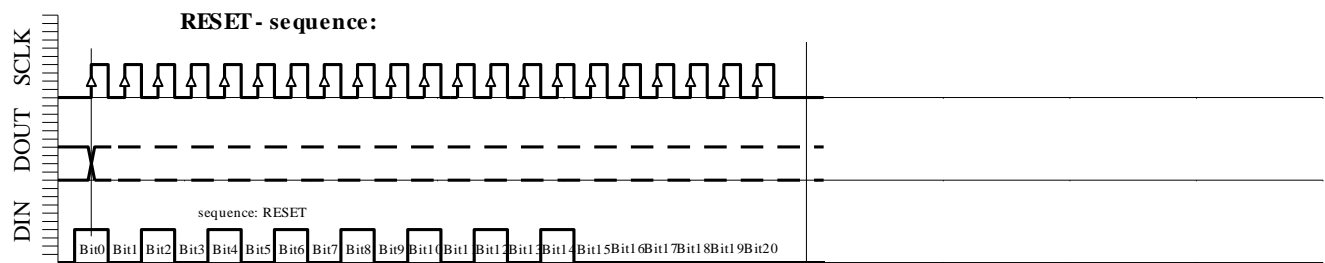

Fig. 6e: RESET sequence (21 bit)
- ✦ RESET sequence (Figure 6e)
The RESET sequence is special as the module in any state recognizes its unique pattern. By consequence, it can be used to restart if synchronization between the microcontroller and the MS5561C has been lost. This sequence is 21-bit long. The DOUT signal might change during that sequence (see Fig. 6e). It is recommended to send the RESET sequence before each CONVERSION sequence to avoid hanging up the protocol permanently in case of electrical interference.